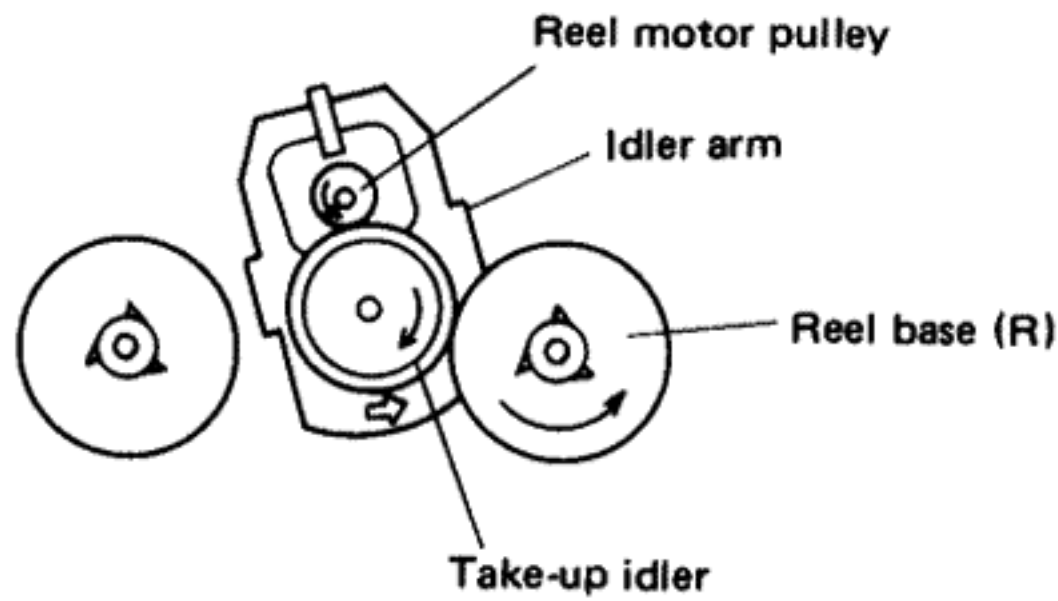

Fig. 4-5 Generation of take-up torque
- Generation of tape take-up torque during playback mode (Fig. 4-5)